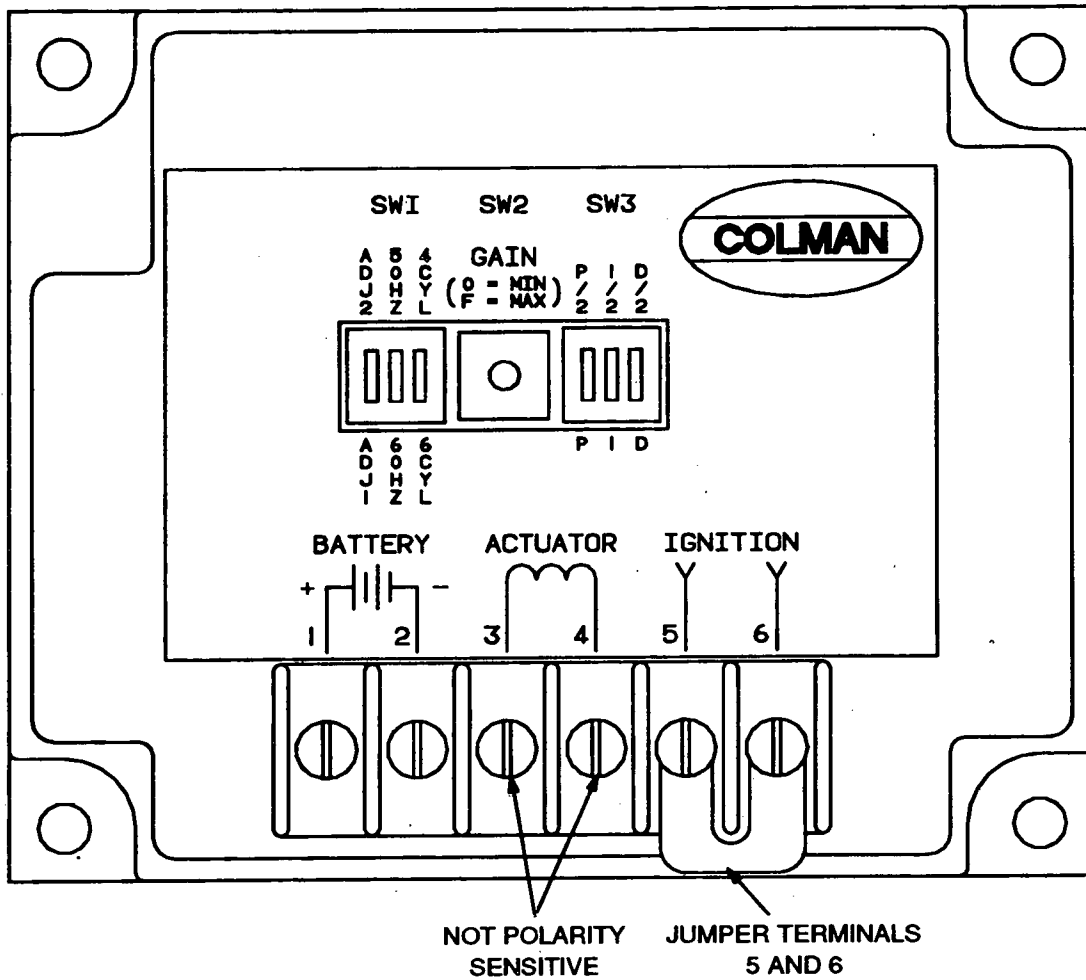
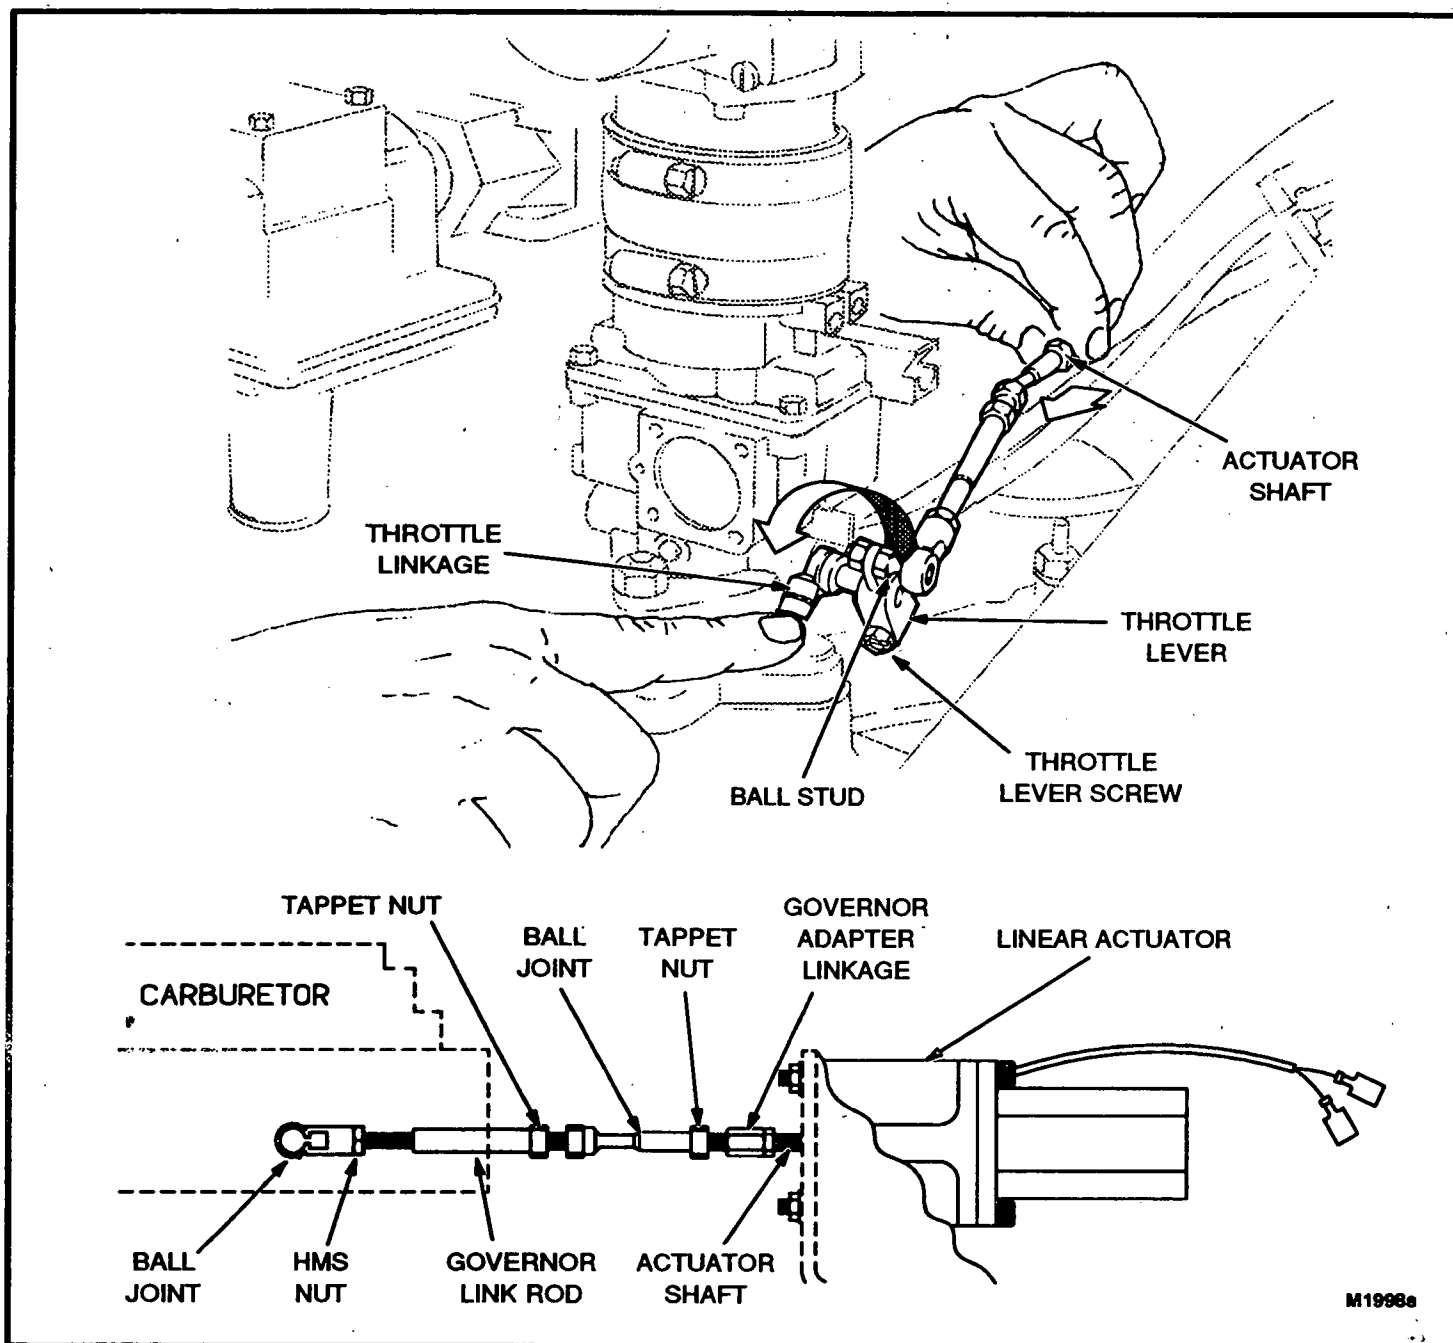

FIGURE 1. GOVERNOR CONTROLLER TERMINALS AND ADJUSTING SWITCHES
FIGURE 2. ELECTRIC GOVERNOR LINKAGE
If necessary, adjust the linkage according to Figure 2 and wire the controller according to Figure 1. Then adjust the governor controller as follows.
1. Initially set the switches as follows (see Figure 1):
Figure 2 illustrates the arrangement of the electric governor components and how to adjust the linkage of the electric governor. The following should be noted:
1. Assemble the governor linkage as shown in Figure 2. Thread each female component at least three to four turns onto each male component and set the lock nuts.